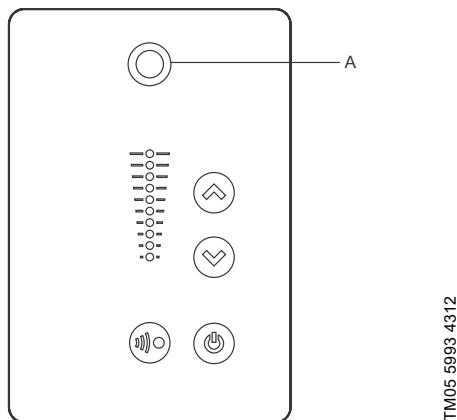

Fig. 84 Grundfos Eye
The operating condition of the motor is indicated by Grundfos Eye on the control panel. See fig. 84 (A).